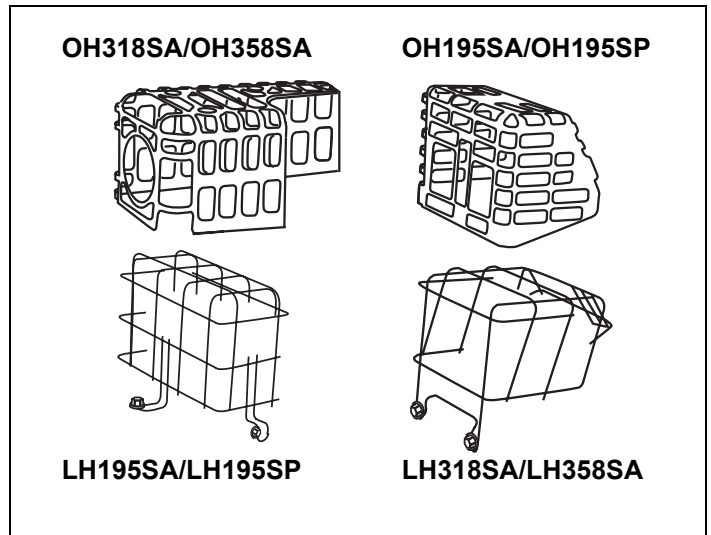

Figure 2. Muffler Guards Available
- To avoid severe burns on contact, STAY AWAY from hot areas of engine. DO NOT operate the engine without the muffler guard in place, if equipped. Tecumseh Power Company offers a muffler guard for all 4-Cycle Snow King Engines. Consult your local Authorized Tecumseh Servicing Dealer or call 1-800-558-5402 for additional information. See Figure 2.